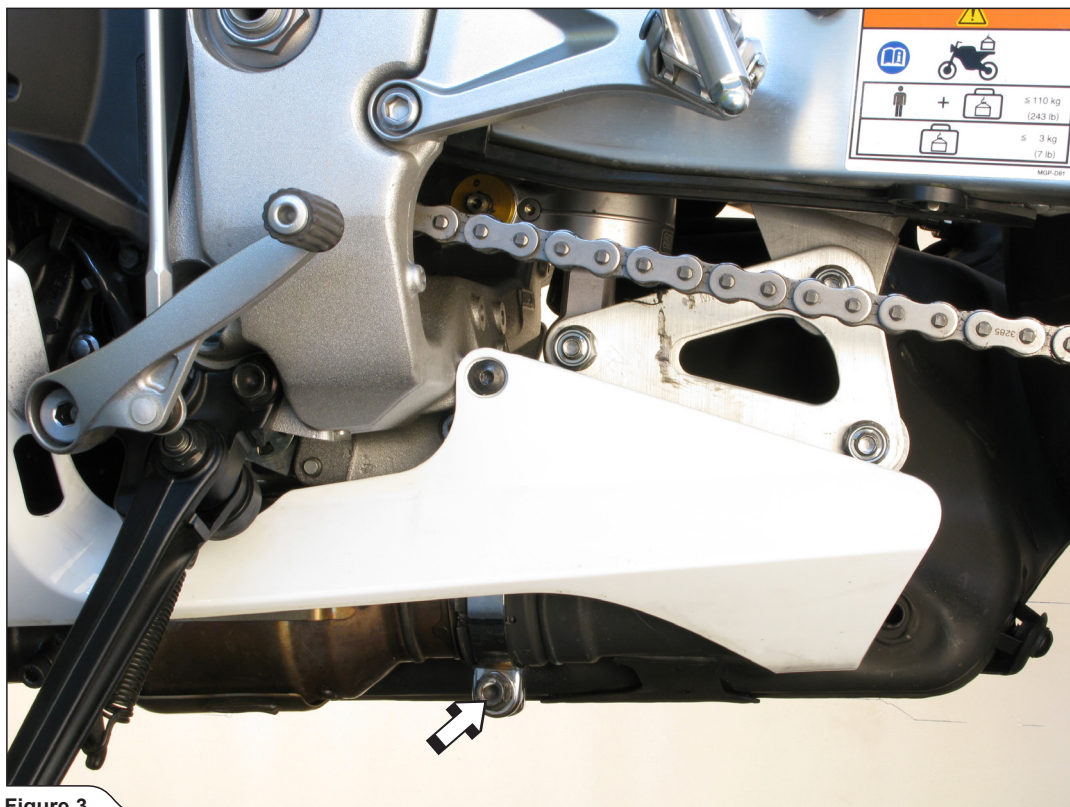

Figure 3
4. Loosen the marked clamp (**Figure 3**).